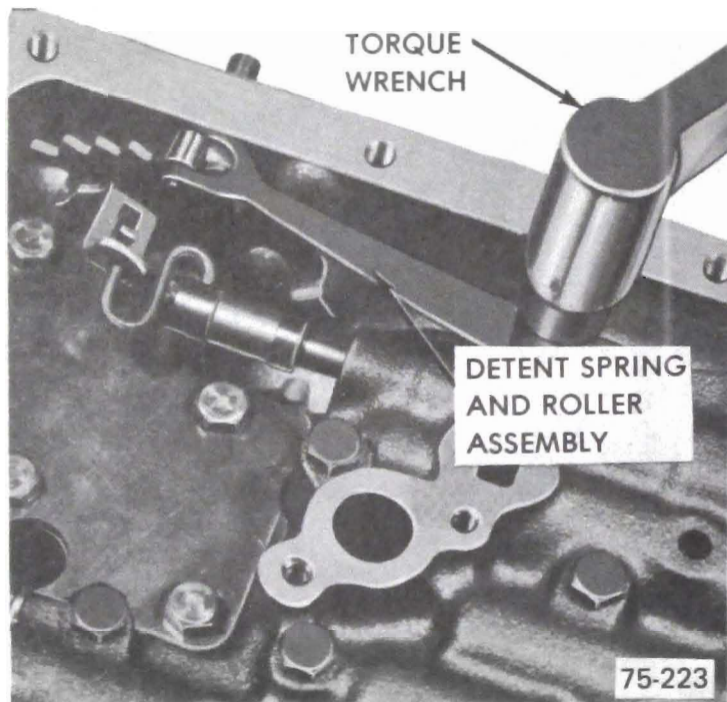

Figure 75-277
7. Install detent roller and spring assembly to valve body. See Figure 75-277.